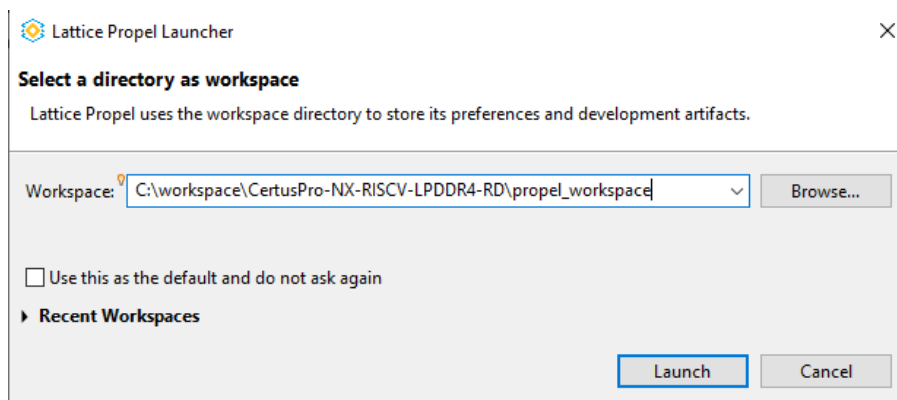

Figure 8.8. Propel SDK Workspace Setup
5. Figure 8.8 shows the reference design workspace setup. When ready, click **Launch**.